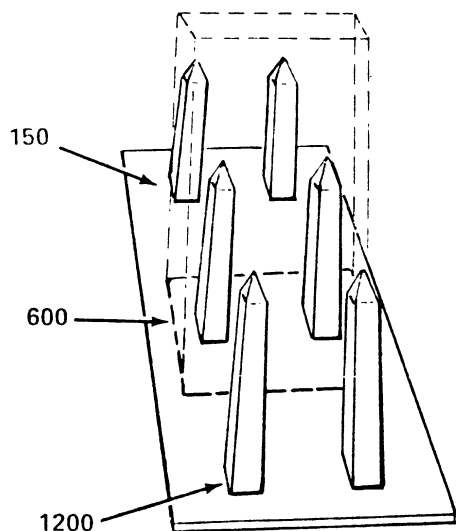
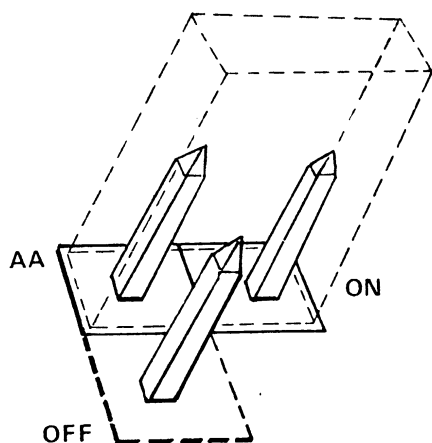
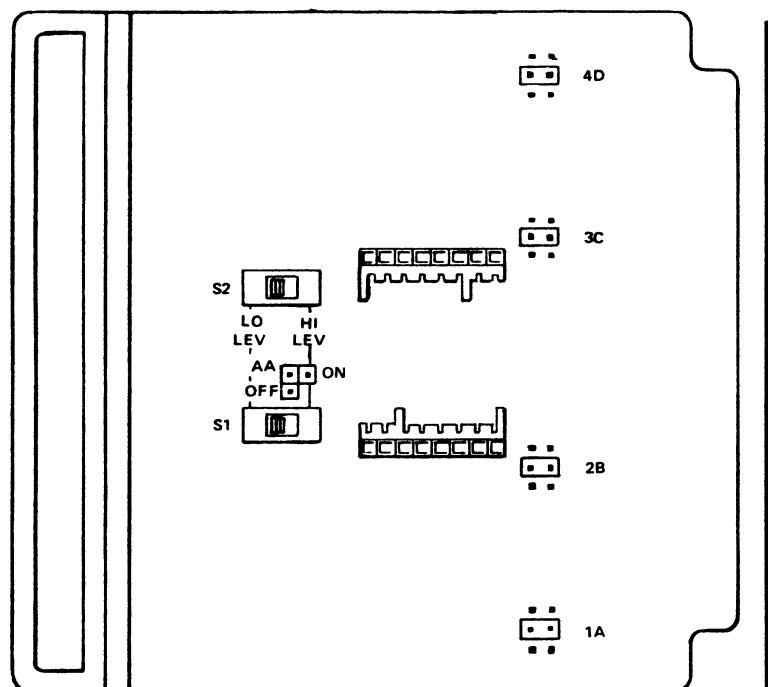

Figure 3. Transformer Plug-in Option for Transformer Impedance Biasing
Figure 4. AA Option in ON Position
Figure 5. Option and Connector Locations and Positions
1.02 This Practice has been reprinted to correct an error which appears in Figure 5 of the first printing. Significant changes are indicated by a change bar (█) in the margin adjacent to the affected copy.
6.01 The 401 is provided with plug-in options (Figures 3, 4, and 5) for 150-, 600-, and 1200-ohm input and output impedences (factory set for 600 ohms). Another plug-in option, AA, is in the OFF position when used with a plug-in receive equalizer; otherwise, it should be in the ON position (factory set for ON). There are two switches, S1 and S2, for setting high and low gains in the receive and transmit amplifiers.
6.04 Figure 3 shows a typical transformer option terminal block on the 401 Issue 5, and Figure 4 shows the terminals of the AA option. Figure 3, strapped for 600-ohm line impedance, is shown with a dotted line to indicate a seated option. Figure 4 shows the AA option in the ON position, which would bypass the subassembly. Figure 5 shows the locations and factory set positions of the plug-in and switch options on the 401 Issue 5.